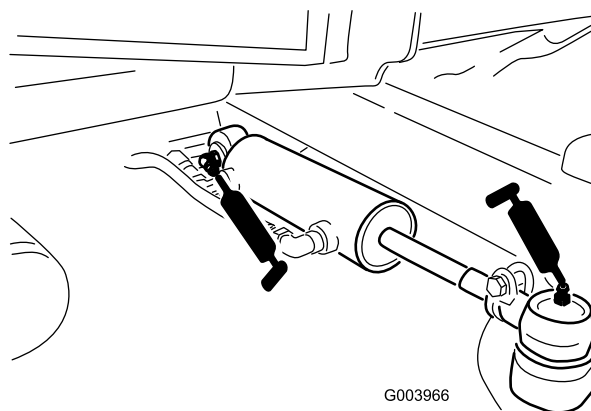

Figure 57
- Steering cylinder ball joints (2) (Figure 57)